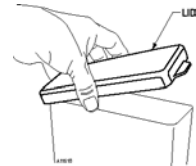

Figure 5e. Canister Lid
4. Remove the lid from the canister. **Figure 5e**.
7. Place the lid on the canister. **Figure 5e**.
11. Rotate the product chute so that it points down (dispense position) to the whipper bowl. See **Figure 5e**.